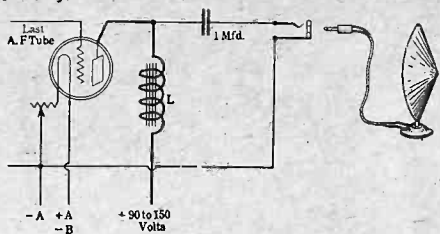

FIG. 329. The electrical diagram demonstrating how to hookup a cone speaker, so as to keep the direct current off the speaker windings.
(1)—Yes, this is true. The direct current is placed on the magnets, which is injurious. (2)—Fig. 329, shows the electrical diagram of such a hookup. L is a 200 henry choke coil. The top prong which formally went to the plate of the last tube, now goes to one terminal of a fixed condenser. The bottom terminal of the jack goes to the A minus post, instead of the B plus post. In this manner D. C. is fed to the magnets only.